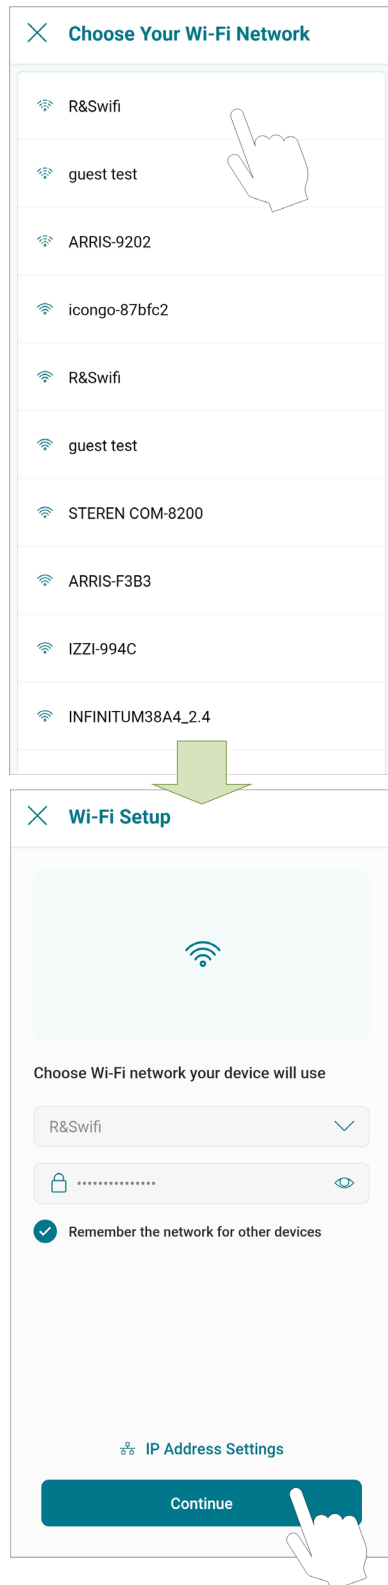

Figure 82. Wi-Fi Setup
5. The "Wi-Fi setup" screen will appear. Select or enter the Wi-Fi network you want your unit to be connected to and enter the network password. See Figure 82.